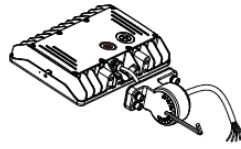

Fig. 13
1. Separate the bracket in two pieces (Fig. 13).